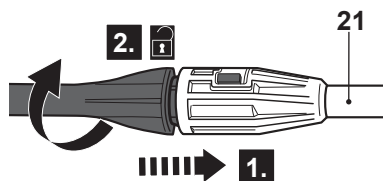

Fig. 22
> Press the suitable accessory towards the extension lance (21) (Fig. 22, step 1) and turn it anticlockwise to remove it (Fig. 22, step 2).